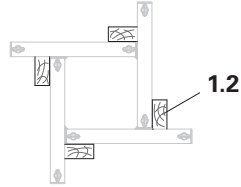

Fig. B1.01
1. Mount the locating boards (1.2) on the concrete slab by means of dowels. (Fig. B1.01)
2. Slide LICO chamfer strips (4) onto the panels.